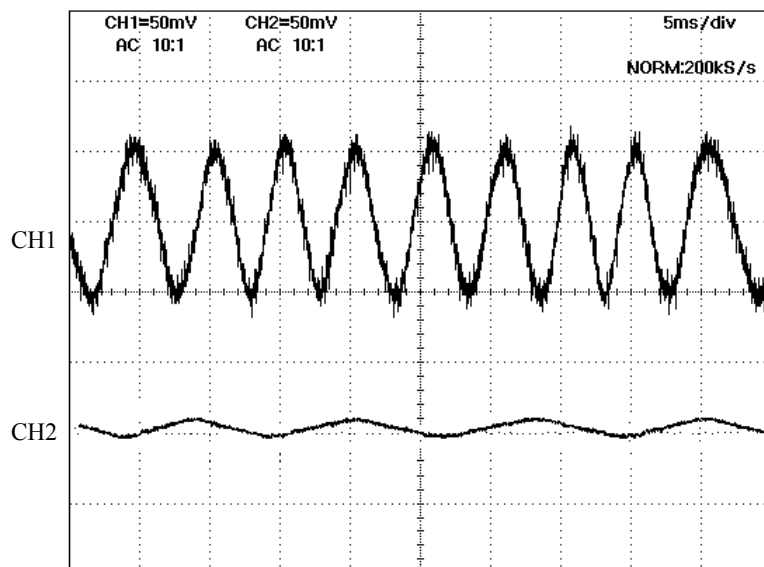

Fig. 3
- As shown in Fig. 3, if the amplitude of only either CH1 or CH2 is small, one of the 2 screws (#123) may be loosened, so check for it. If this is not the case, the MR head may malfunction, so replace the GMR sensor FPC unit and make a readjustment.